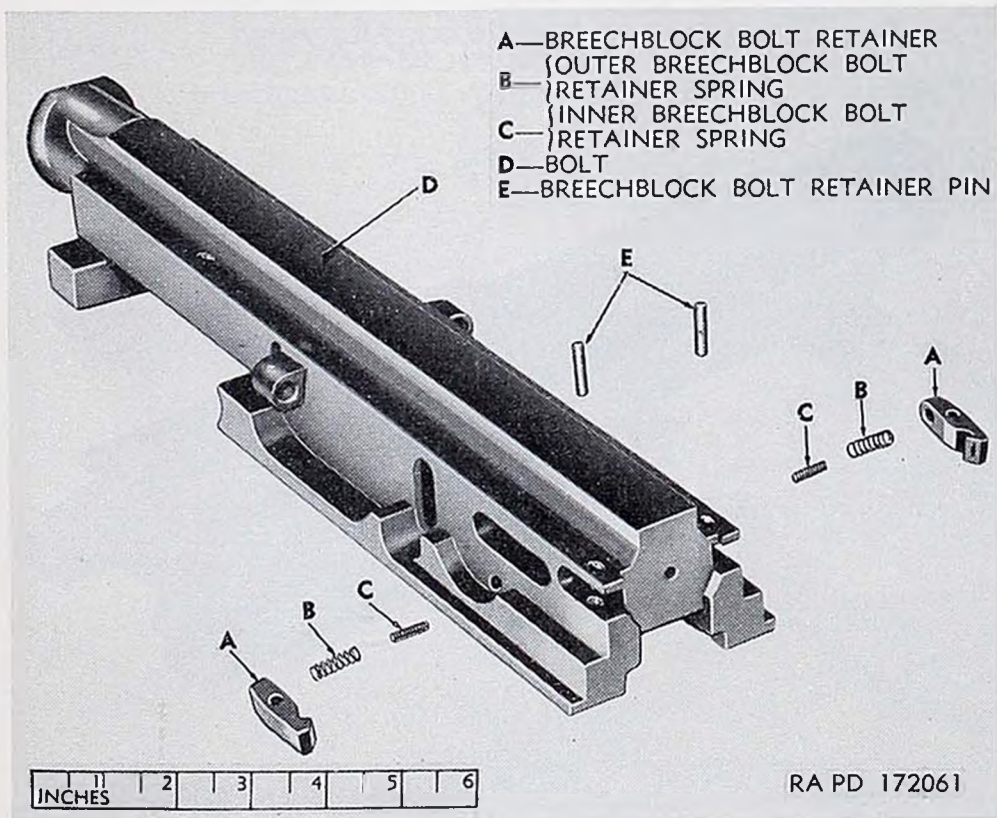
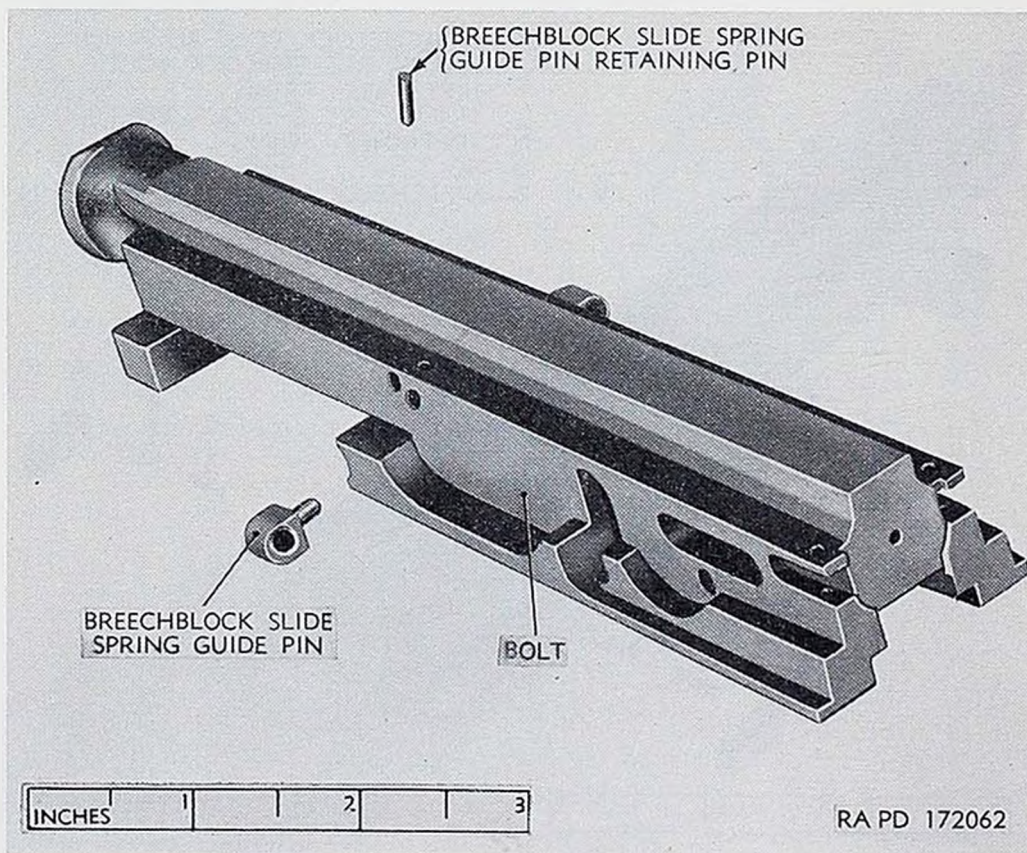

Figure 112. Removal of breechblock bolt retainers.
Figure 113. Removal of breechblock slide spring guide pin.
a. Removal of Breechblock Bolt Retainers (fig. 112).
- (1) Remove left-hand bolt retainer pin from bolt with a drift punch. Pin should be driven out from lower end of bolt as it is staked on the upper end. Some early production models are staked at top and bottom.
- (2) Remove left-hand bolt retainer carefully so that inner and outer bolt retainer springs will not fly out. Remove inner and outer bolt retainer springs.
- (3) Repeat operations in (1) and (2) above to remove right-hand bolt retainer.
b. Removal of Breechblock Slide Spring Guide Pin (fig. 113).
- (1) Remove breechblock slide spring guide pin retaining pin and bolt with a drift punch. Pin should be driven from bottom of bolt as it is staked in position on top side.
- (2) Withdraw breechblock slide spring guide pin.
a. Installation of Breechblock Bolt Retainers (fig. 112).
- (1) Install inner and outer breechblock bolt retainer springs and breechblock bolt retainer on the left side of the bolt. Notched side of retainer should face toward face of bolt.
- (2) Aline hole in bolt with hole in retainer and insert new breechblock bolt retainer pin. Drive in pin and stake upper end of pin only. (Staking both upper and lower ends sometimes starts cracks in the bolts.)
- (3) Repeat operations in (1) and (2) above to install right-hand breechblock bolt retainer.
b. Installation of Breechblock Slide Spring Guide Pins (fig. 113).
- (1) Insert breechblock slide spring guide pin in hole in left side of bolt.
- (2) Aline hole in guide pin with corresponding holes in bolt and drive in a new breechblock slide spring guide pin retaining pin. Stake pin in position on upper part of bolt.